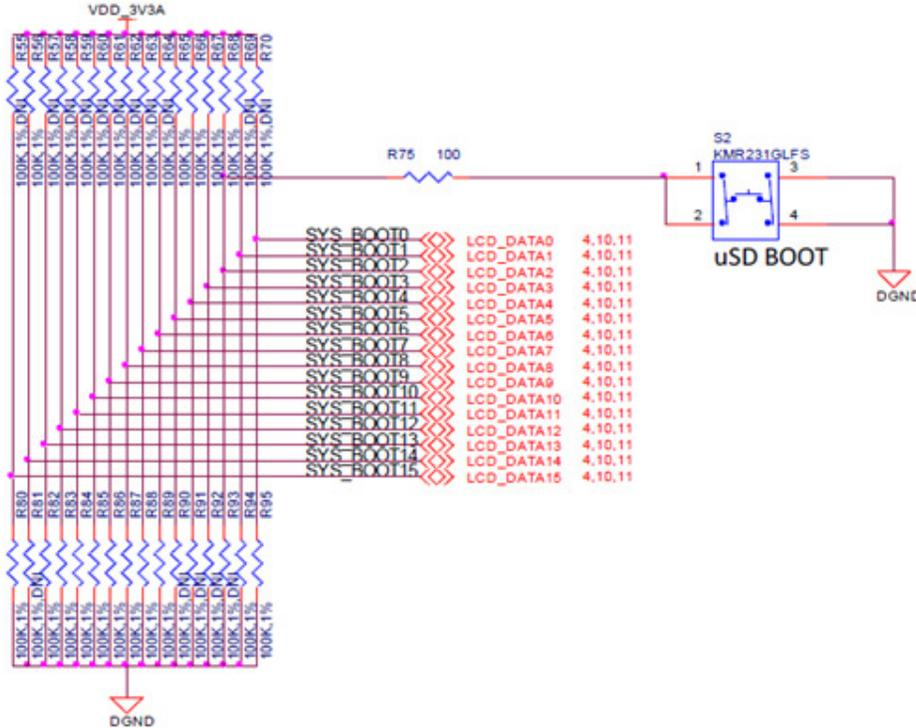

Figure 38 Processor Boot Configuration Design
**Figure 38** shows the circuitry that is involved in the boot configuration process. On power up, these pins are read by the processor to determine the boot order. S2 is used to change the level of one bit from HI to LO which changes the boot order.